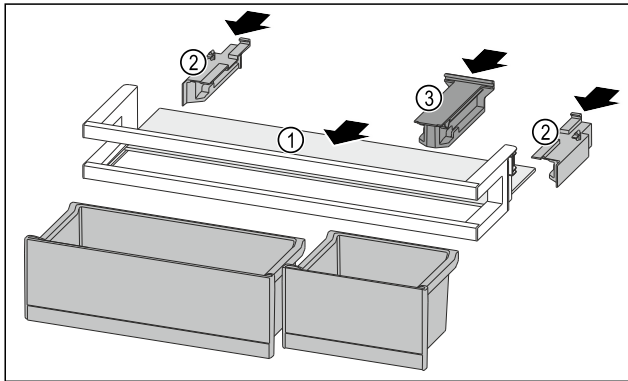

Fig. 162
- ▶ Push the shelf Fig. 162 (1) into the side recesses.
- ▶ Insert the side parts Fig. 162 (2).
- ▶ Insert the holding part Fig. 162 (3).